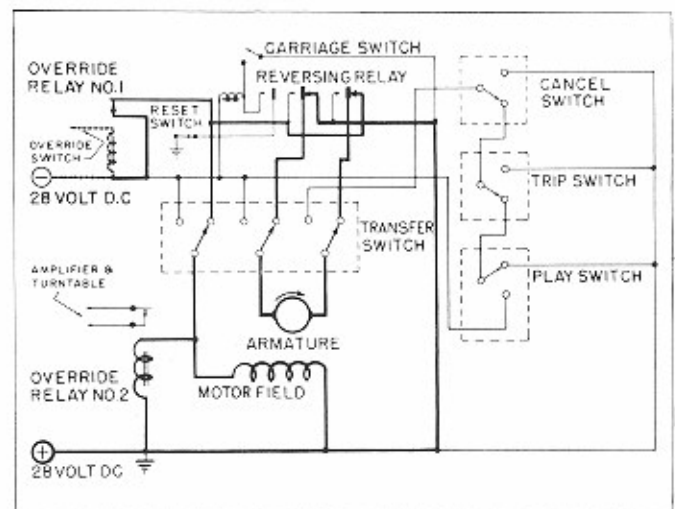

Fig. 47 PHASE 2 - OVERRIDE CIRCUITS
b. Phase 2 -- Over-ride Switch and Over-ride Relays. (Fig. 47)
When over-ride relay No. 1 is energized its normally open contacts close as shown in Figure 47 and simultaneously completes three D.C. circuits. One to over-ride relay No. 2 which provides A.C. for the amplifier and the turntable motor, one to the D.C. motor field, and one to the armature of the D.C. motor. These circuits are shown in heavy lines. Thus the changer motor starts its clockwise operation to drive the record carrier through its searching phase.